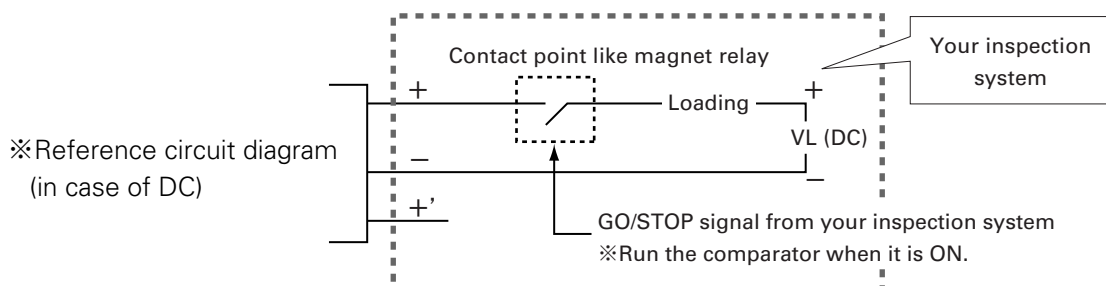

Fig. 11
- When taking the comparator measurement with the input terminals are opened, such as when the resistance measurement, comparator always shows "Hi" result with "OL" sign on LCD. To prevent this problem, add GO/STOP signal to your inspection system in reference to the circuit diagram shown in Fig. 11.